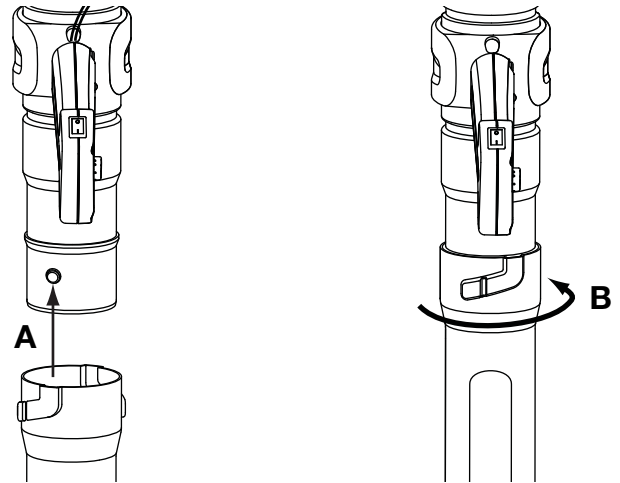

Fig. 3
1. Align the bump slot on the end of the first lower blower tube with the bump on the bottom end of the upper blower tube (Fig. 3, A).
2. Insert the bump on the upper blower tube into the bump slot on the tube extension (Fig. 3, A).
3. Twist the extension tube clockwise around the upper blower tube until the handle tube bump locks into place (Fig. 3, B).